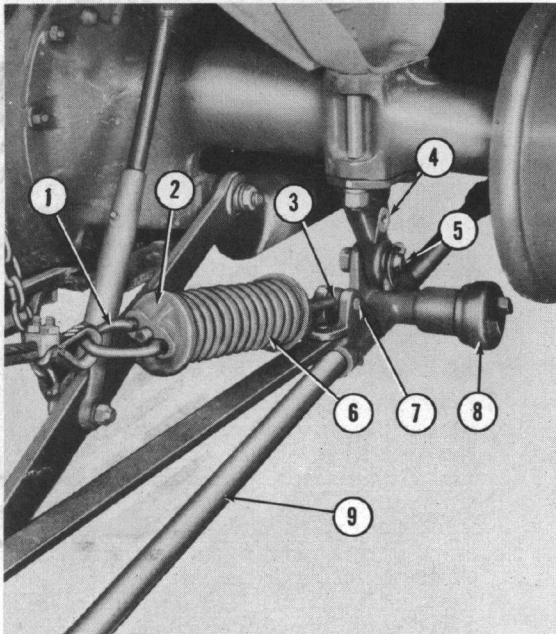

Figure 14
- Turn the breakback housing (8), Figure 14, horizontal as shown and attach the pull bar pin (5) to the anchor bracket (4). Secure with the linch pin provided.
- Turn the adjusting bolt (3), Figure 14, out of the balance spring (6) until it is flush with the spring cap (2) and attach the bolt (3) to the pull bar bracket with the pin (7) and cotter pin.
- NOTE:** The adjusting bolt (3), Figure 14, is manufactured with a bend in it so that when properly attached the balance spring (6) will be on the left side of the pull bar (9).
- d. Raise the right side of the mower main frame with the tractor leveling crank until the U-bolt (1), Figure 14, starts to pull out from the spring cap (2). As the mower is broken in it is probable that this adjustment will have to be repeated until